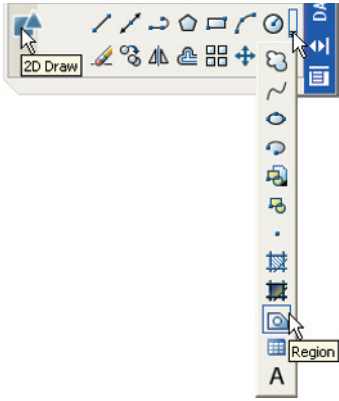

Fig. 13.8 Selecting **Region** from a flyout in the **2D Draw** control panel
When constructing 2D outlines suitable as a basis for constructing some forms of 3D model, use tools from the **2D Draw** control panel. If constructed using tools such as **Line**, **Circle** and **Ellipse**, before being of any use for 3D modelling, outlines must be changed into regions with the **Region** tool (2D Draw control panel – Fig. 13.8). Closed polylines can be used without the need to use the **Region** tool.
2. *Left-click* on **Region** tool in the **2D Draw** control panel (Fig. 13.8), or *enter reg* at the command line. The command line shows: